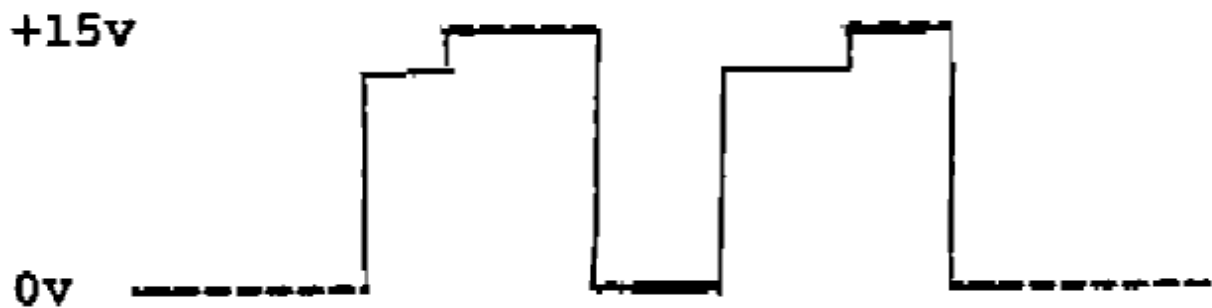

Figure 1
- b. Observe figure1 on U5-pin3 at $\approx 1.2\text{kHz}$.